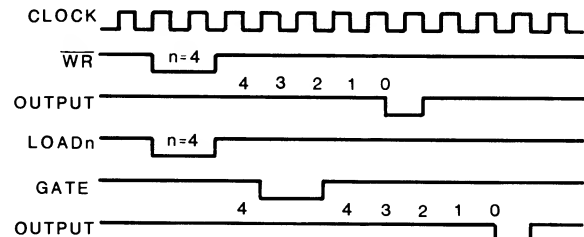

Figure 14-13. Timing Mode 4
**Mode 4** — In this mode, the counter, when it reaches zero, will place a single pulse that lasts for one clock cycle on its output. Counting will begin when the counter is programmed with a value. Refer to Figure 14-13.